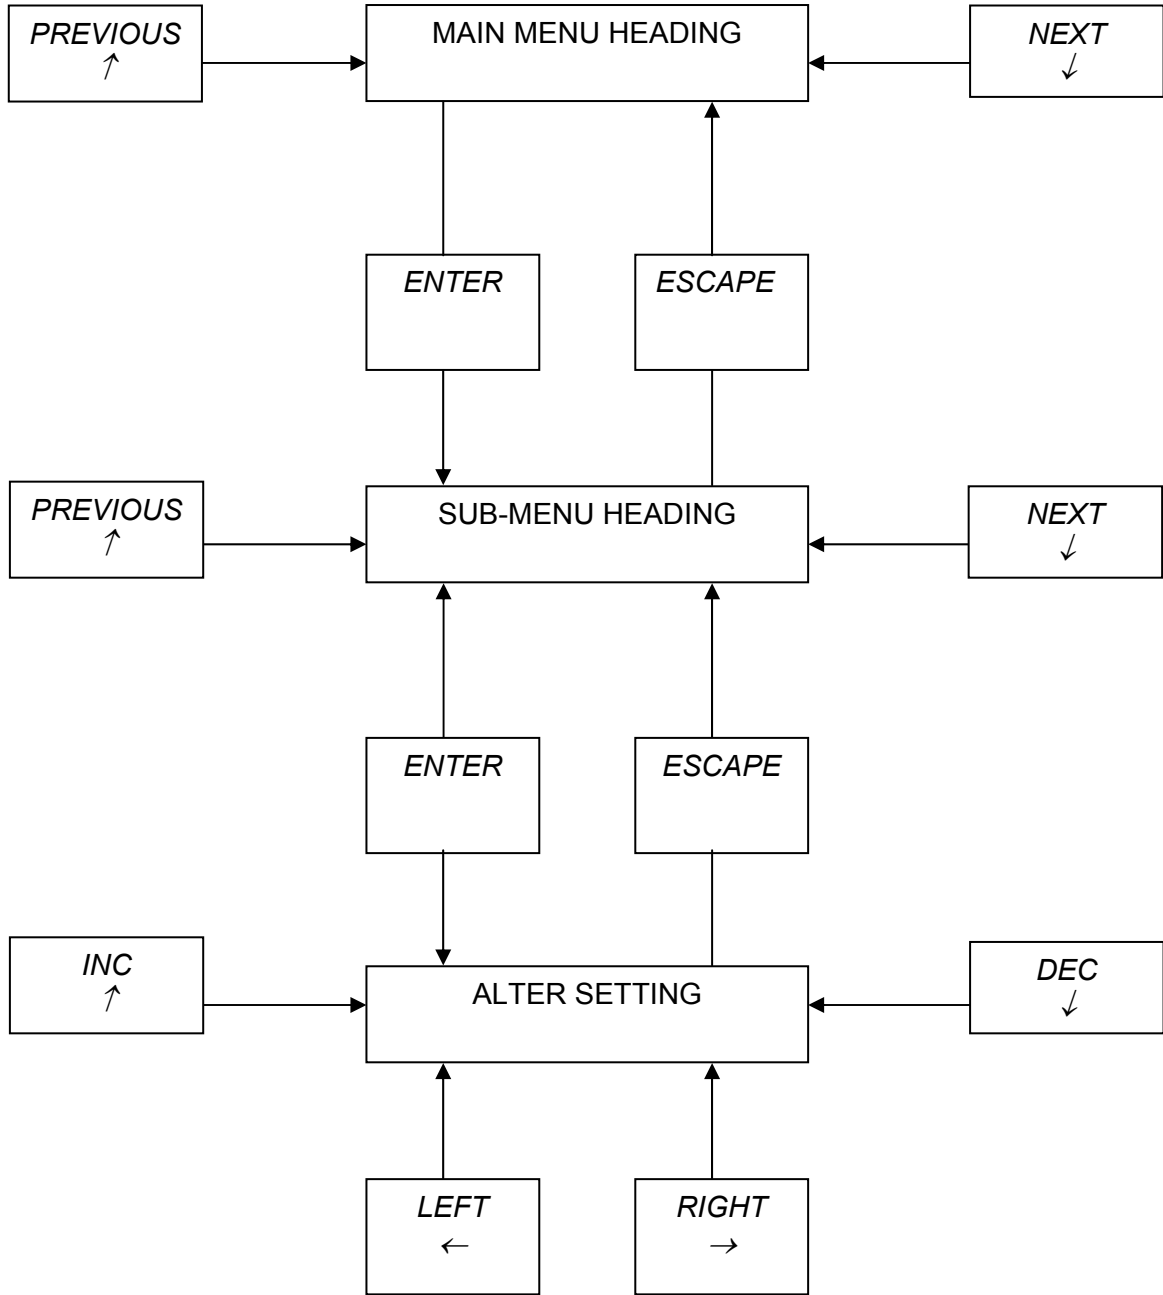

FIG 3.1 ACCESSING AN OPTION SETTING – FLOW DIAGRAM
7. The method of navigating the menu structure is consistent throughout the program. The ↑ and ↓ keys are used to index through the headings in a particular level or increment / decrement a value. Pressing ENTER will select a submenu or confirm a change, whilst ESCAPE will reject a change or return to the previous menu level. The sequence for accessing a menu option and then accessing a submenu within that option and finally selecting and changing a parameter's value is shown diagrammatically in Fig 3.1.